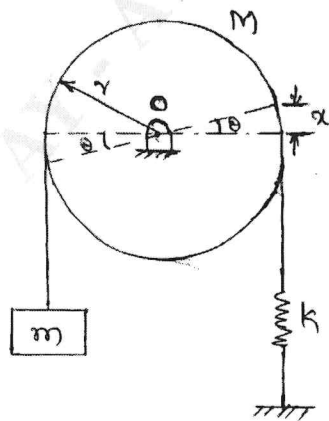

Fig.Q9(b)
- b. Determine the natural frequency of oscillation of the shown in Fig.Q9(b), using energy method.